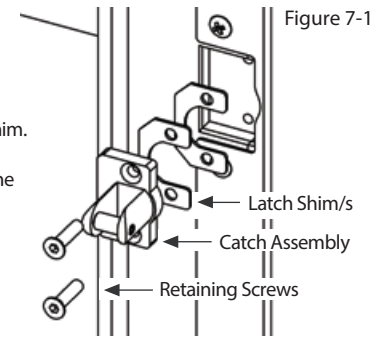

Figure 7-1
- Additional shims are available from your Jindara dealer. Refer to figure 7-1.